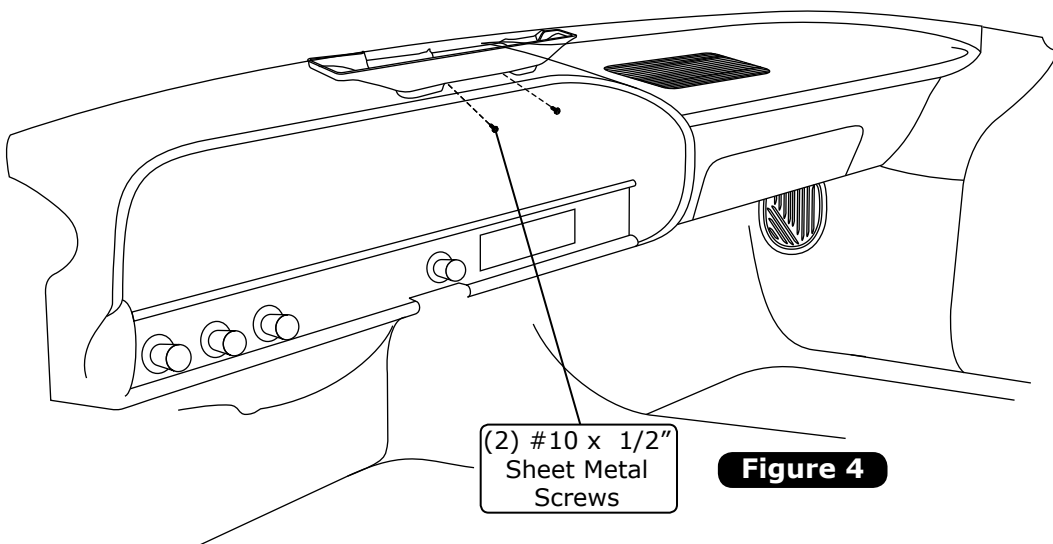

Figure 4
1. Place the defrost duct under the dash, and align it with the OEM defrost opening in the dash. Drill (2) 1/8" holes in the cowl, using the defrost duct hole as a template. Secure using (2) #10 x 1/2" sheet metal screws as shown in Figure 4, below.